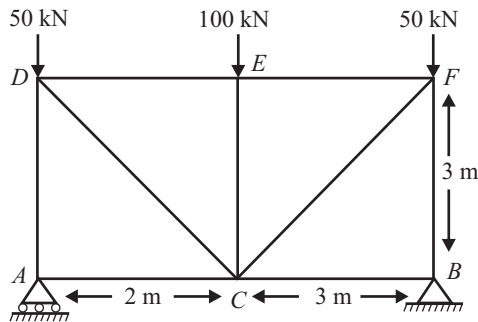

Fig. 13.38
S.No.	Member	Force (KN)	Nature
Q. 15: Determine the magnitude and nature of forces in the various members of the truss shown in figure 13.38.